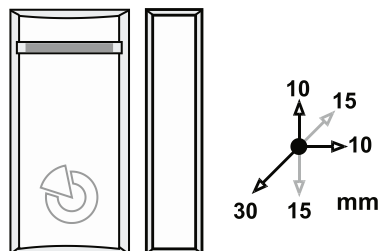

Figure 2: Distances for activation/deactivation of a detector installed on non-magnetic (magnetic) surface
1. Open the detector cover by pushing the tab (3).
3. Screw the permanent magnet to the moving part of the door (window). The distance between the electronic part and the magnet should be as small as possible. The activation/deactivation distances between the magnet and the detector are shown in the following Figure 2. For other types of magnets or opposite polarity, the values may vary.